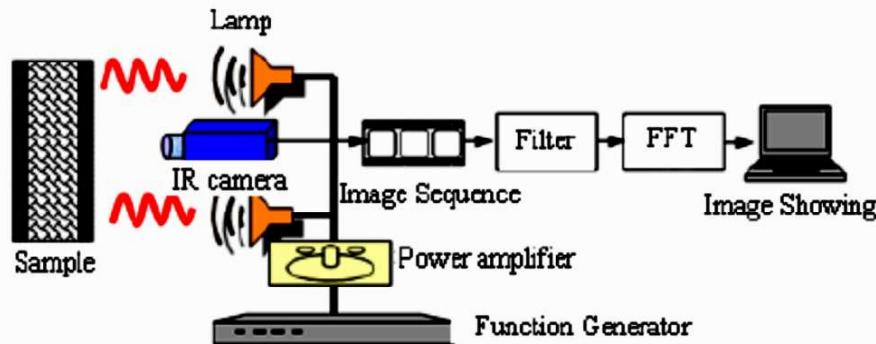

Fig 3.1: Block Diagram of Thermography
**Experiment procedure to determination of thermal image System set up**-The system that is based on IR image sequence processing is recorded the temperature variation history on the surface with periodical heat flow generation by using of infrared camera, and then, the image sequences are processing with the signal processing algorithms to obtain the amplitude and phase image, which are used to FFT method. Fig.3.1 shows the principle of the Lock in thermography based on the image sequence processing. Thermal imaging cameras convert the energy in the infrared wavelength into a visible light.